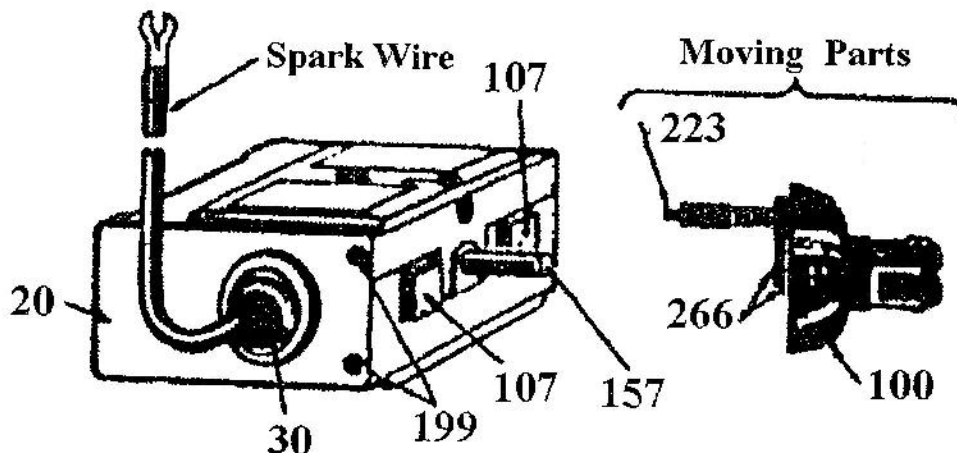

Fig. 1 - Magneto, Moving Parts Removed
Put advance lever (403) in the starting position (See Figure II for Type No. 1 drive, Figure IV for Type No. 2 drive, and Figure VII for Type No. 3 drive). Be sure the spark wire (Figure 1) is connected to the spark plug. If engine is provided with a priming cup, prime engine by pouring a small amount of gasoline into the cup and letting it flow into the cylinder. If there is no priming cup, instructions accompanying engine will show how to choke air intake for same purpose. Turn flywheel in the direction in which it will run. If engine does not start after turning a few times, prime with a little more gasoline. If the engine then fails to start remove spark wire from spark plug, release compression by holding intake valve open also open priming cup, and spin the flywheel rapidly a few times to blow out excess gasoline, due to priming charge being too heavy. (removal of spark wire is to prevent ignition blowing back when intake valve is open and starting outside fires). Then prime engine again, using less gasoline than at first, and again turn flywheel in direction in which it will run. In extremely cold weather a much heavier priming charge can be used safely. Engines failing to start in hot weather, especially when they are warm, are usually primed too heavily and require blowing out as described above. After engine comes up to speed, move the advance lever (403) to the running position. (See Figure II for Type No. 1 drive, Figure IV for Type No. 2 drive and Figure VII for Type No. 3 drive.)